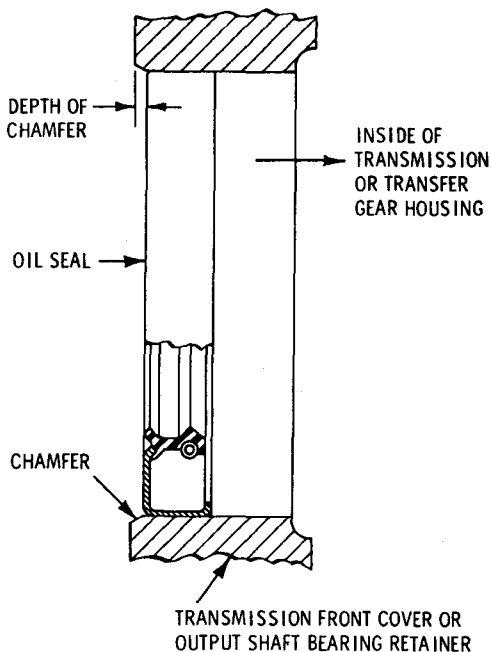

Fig. 6-7. Installation of oil seals
(2) Install the oil seal into the transmission front cover, or output shaft bearing retainers, as shown in figure 6-7. The oil seal should be pressed to the depth of the chamfer in the bore. Note the position of the spring-loaded lip of the oil seal.